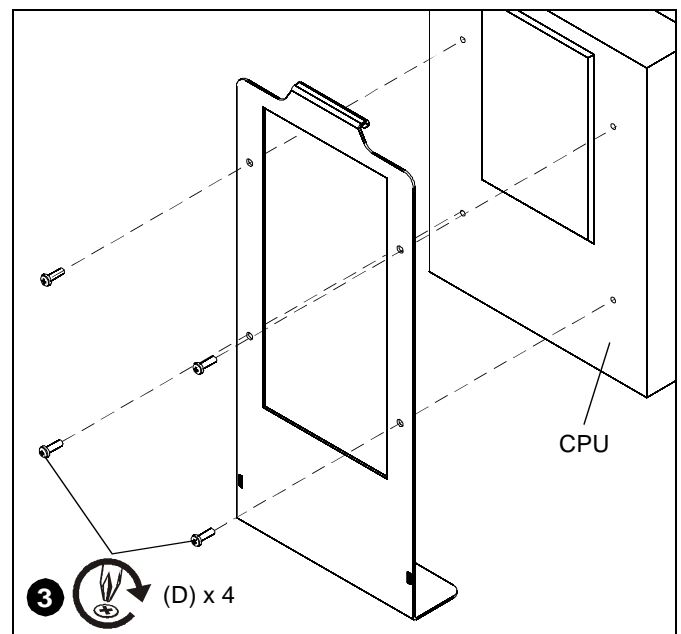

Figure 3
3. Attach removable bracket (A) to CPU using four M3 x 8mm Phillips head screws (D). (See Figure 3)